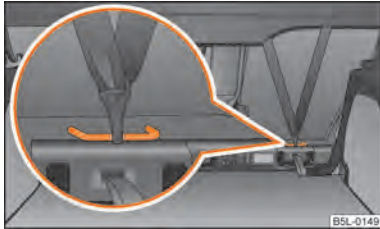

Fig. 136 Rear seat: Top Tether
In certain countries national legal provisions also require the equipment of the rear seat with fixing eyes for child seat using the "Top Tether" system ⇒ fig. 136.
- Attach the child seats with the "Top Tether" system only to the points provided for this purpose ⇒ fig. 136.